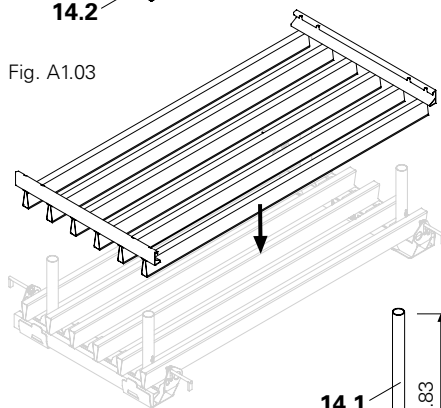

Fig. A1.05
4. Lay the second element in the first element with the transverse profiles pointing upwards. (Fig. A1.05)